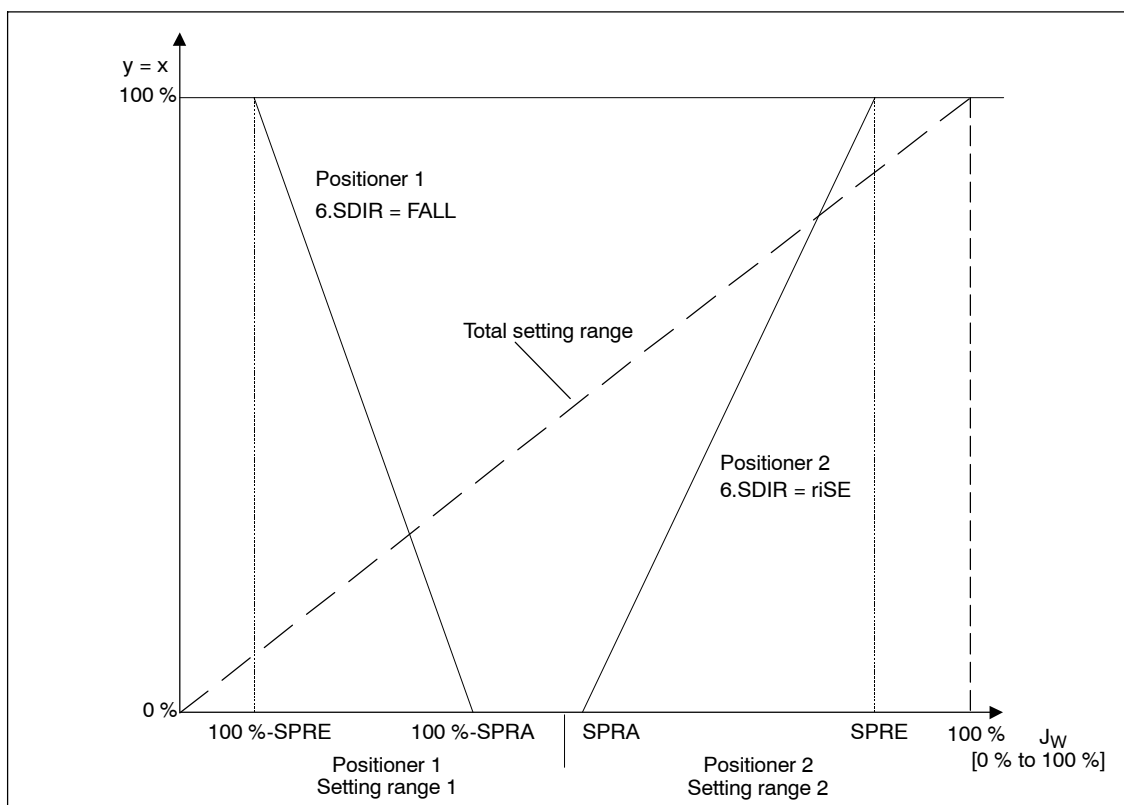

Figure 4-8 Example: Split range-operation with two positioners
7.SDIR Setpoint direction (see figure 4-8, page 101)
8.SPRA Split range start (see figure 4-8)
9.SPRE Split range end (see figure 4-8)